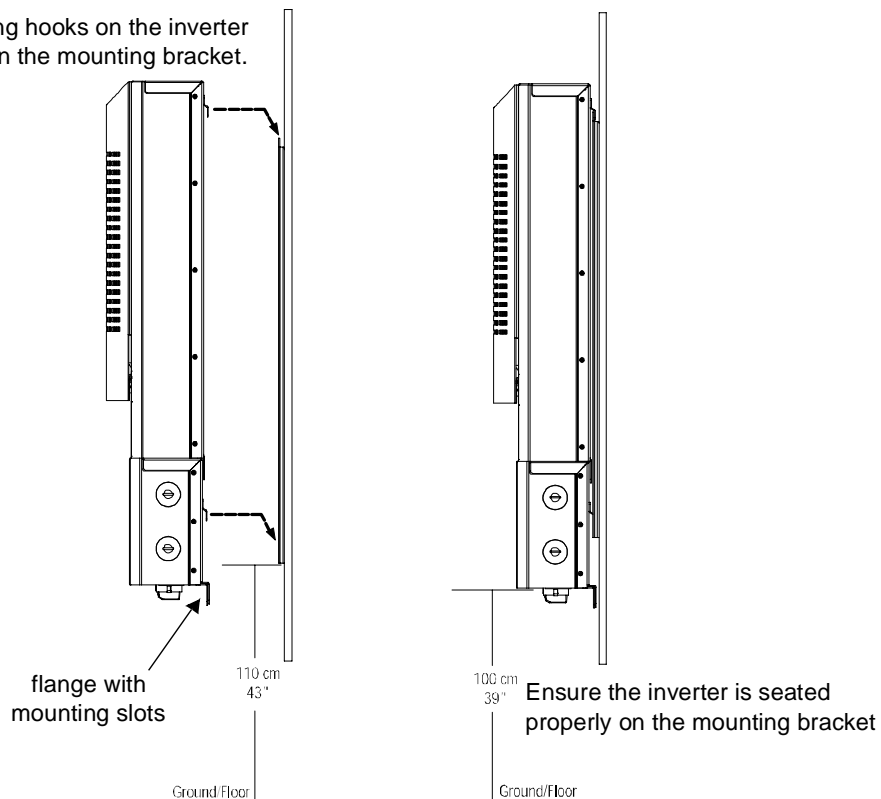

Figure 2-11 Proper Placement of the Inverter on the Mounting Bracket
1. Place the GT Inverter's mounting hooks, located on the back of the enclosure, over the bracket and ensure the inverter is seated properly, as shown in Figure 2-11.